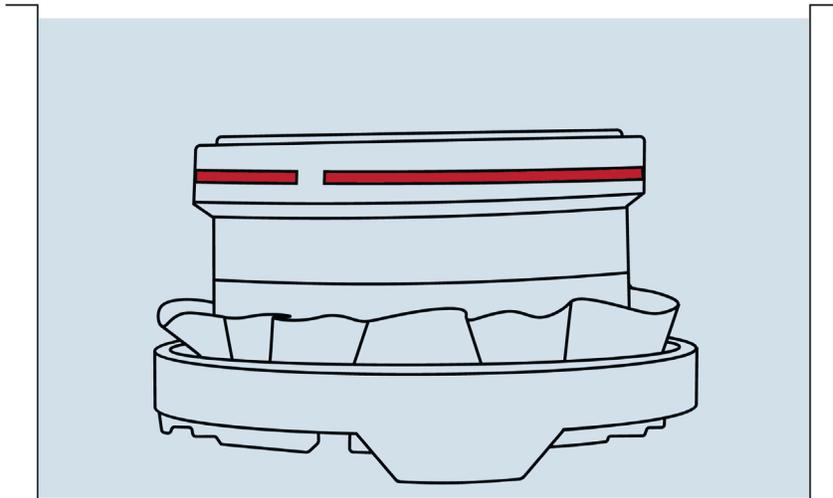

Figure 7 Cover sample with water
11. Fill the pan with at least 12 cm water so that the soil sample is completely covered with water (Figure 7).